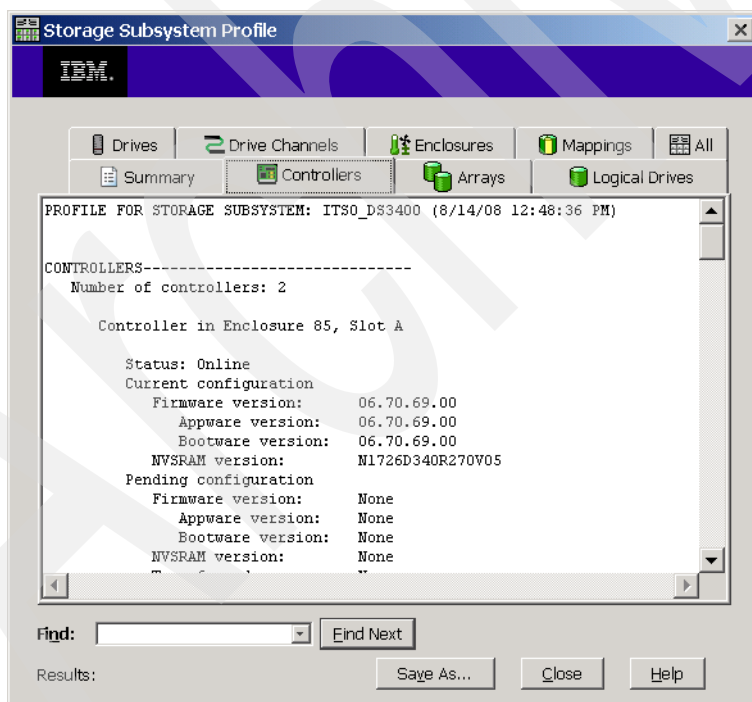

Figure 14-13 Display controller status
**Note:** To check the controller status, you can first view the overall system status on the Enterprise window. If the subsystem status is optimal, then both controllers are working. You can also go to the Storage Subsystem Profile in the Controllers section. This lists the status of each controller, as shown in Figure 14-13.